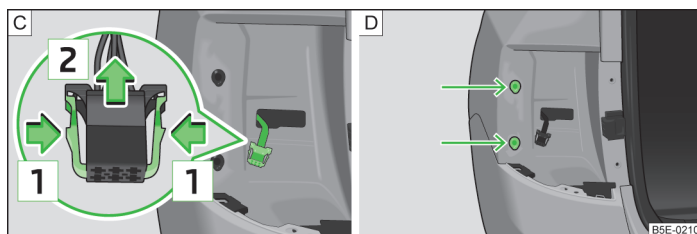

Fig. 234 Installing the lamp connector/lamp
- Press together the interlocks on the connector in the direction of arrow [1] » Fig. 234 - [C].
- Insert the lamp into the mounts in the body » Fig. 234 - [D].